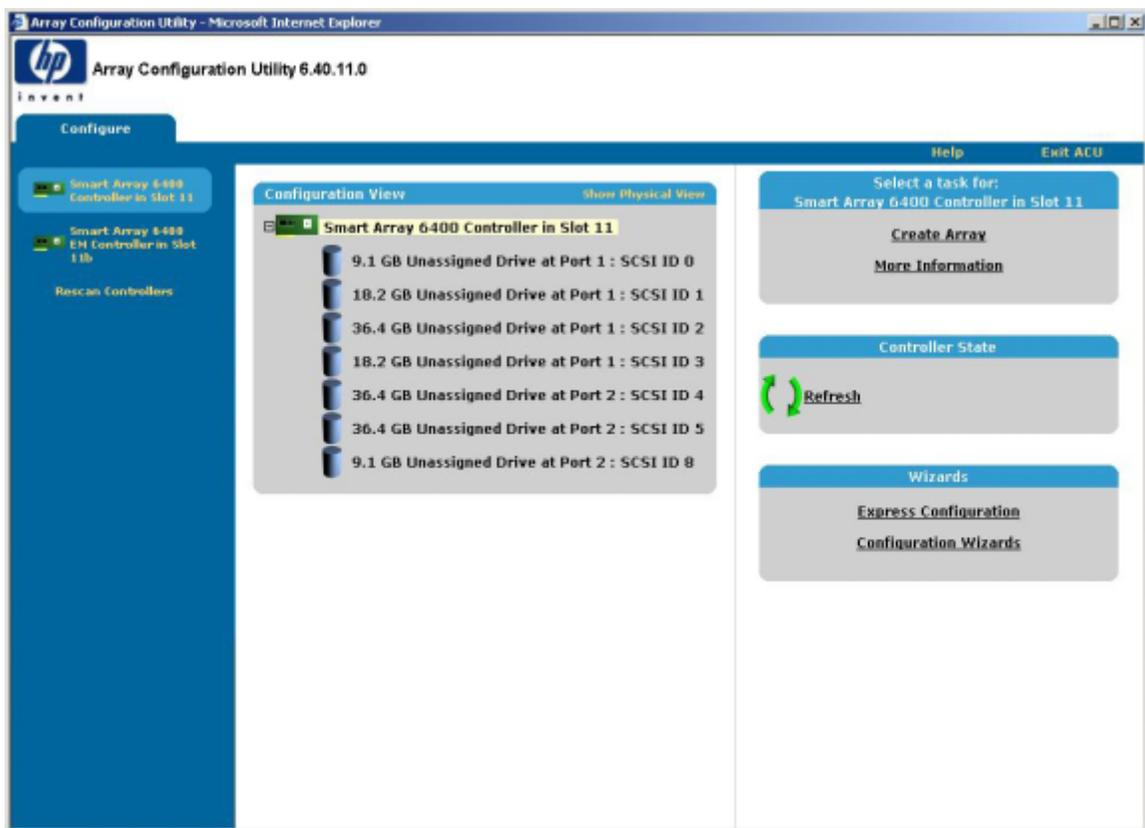

Figure 5. SA-6400 ACU screen shot
- **Array Configuration Utility (ACU)**—The ACU is an easy-to-use graphical configuration utility to help set up and change drive array configurations. Figure 5 shows a screen shot of the SA-6400 ACU.